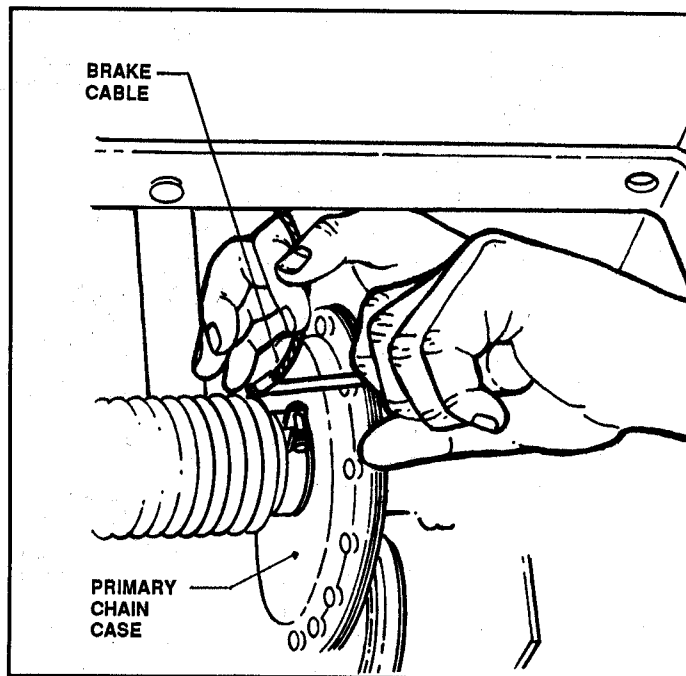

FIGURE 4.32
4. Disconnect R.H. boot clamp from chain case. **MODELS 4 & 5 ONLY** - Remove brake cable housing from clip on chain case. See Figure 4.32.